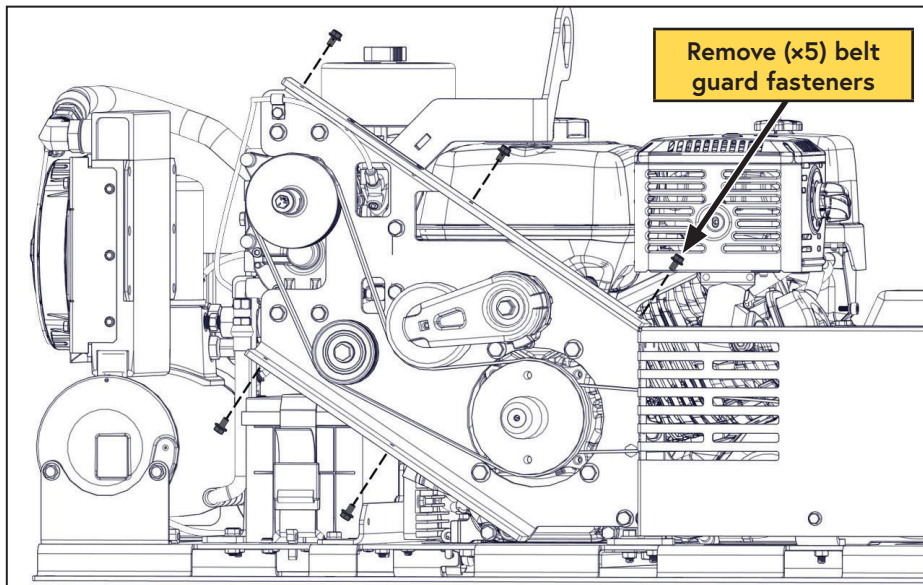

Figure 73 — Remove the belt guard
- ☐ Remove the (x5) fasteners from the belt guard and remove the belt guard (Figure 73).